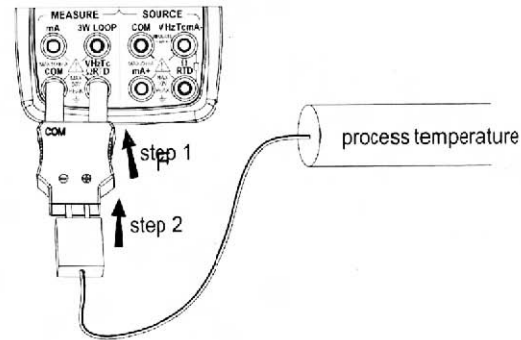

Figure 13 Measuring TC
For thermocouple signal (Figure 13)
Step 3: Connect the thermocouple converter to the jack under test as shown in Figure 13. The selected function and the measured value and unit shall be shown in the upper part of the LCD.